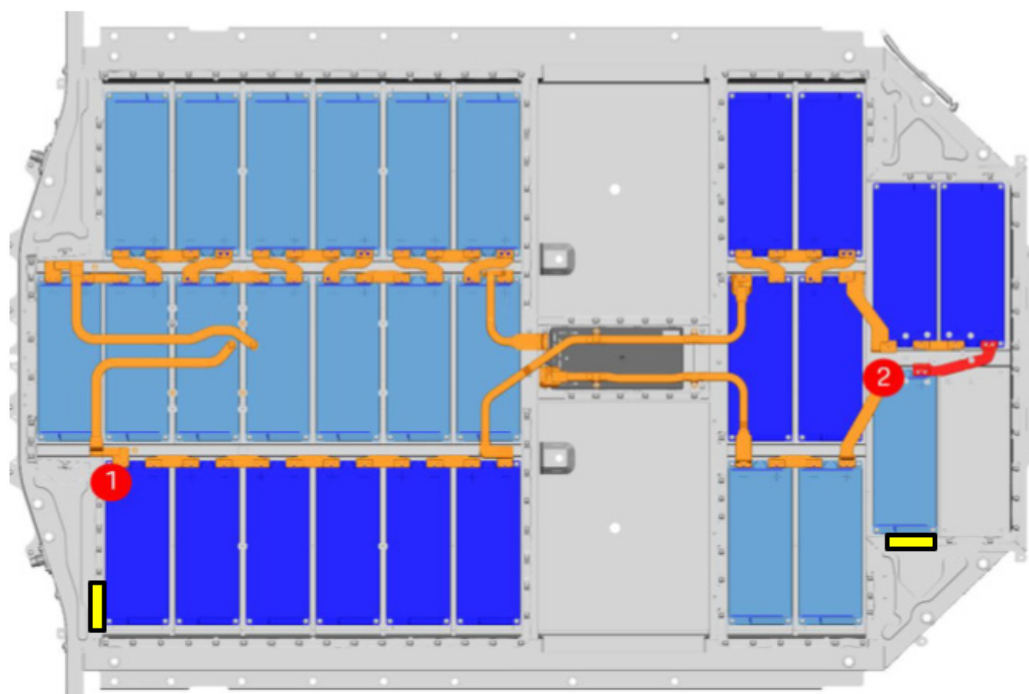

Figure 1 - 28-module HV Battery measurement points
- Grounding points for DST and IR testing on both 28- and 33-module Taycan battery packs have been modified from WM 270803A5 and are detailed below in figures 1 and 2.
DST Procedure for 28-module Taycan Battery Pack (Figure 1)
- The yellow boxes in Figure 1 designate the sections of laser clean surface (silver stripe) to contact using the negative probe to ground the dielectric strength tester. This method ensures consistency in testing.
- Perform IR tests at each measurement point in Figures 1 and 2 before and after a DST at that point.
- Discharge capacitance and remove all the busbars from modules of failed section(s) differentiated by light and dark blue in Figures 1 and 2.